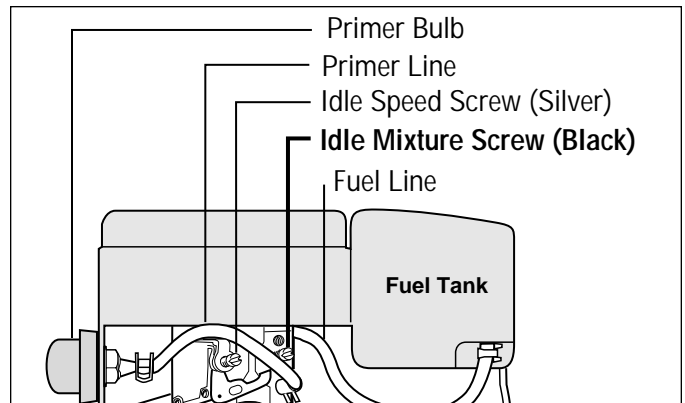

Figure 15: Idle Mixture Screw can be adjusted.
- Locate the carburetor idle mixture screw (Figure 15). It is directly under the air filter and is black. **Do Not Adjust The Silver-Colored Screw.**